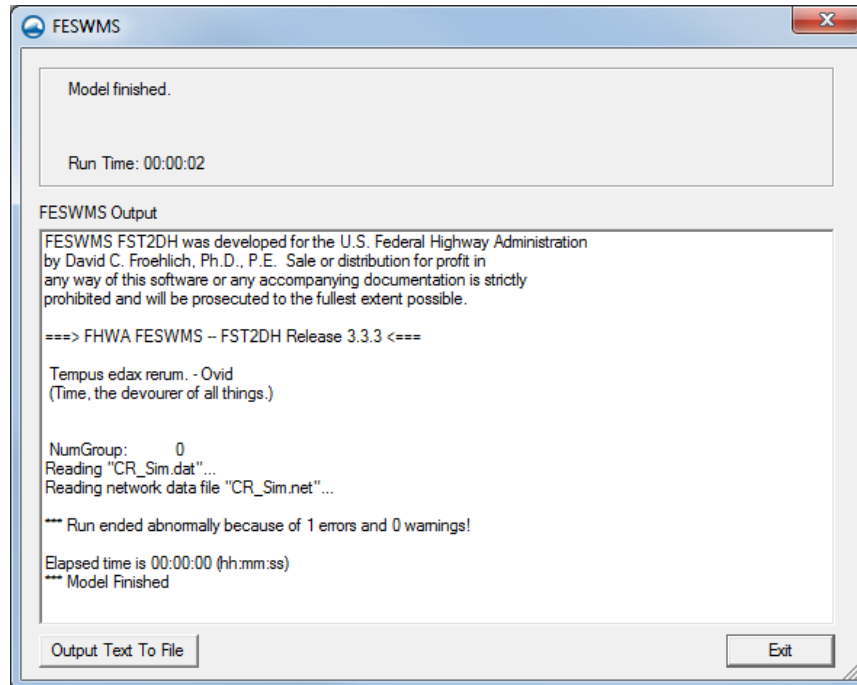

Figure 7 Output from running *CR\_Sim.fpr*
*FST2DH* will run iteration 1 and diverge. Near the bottom of the *FESWMS Output* section in the *FESWMS* dialog is the text "\*\*\*\*Run ended abnormally because of 1 errors and 0 warnings!" as shown in Figure 7. This is how FST2DH declares that it has not successfully converged.